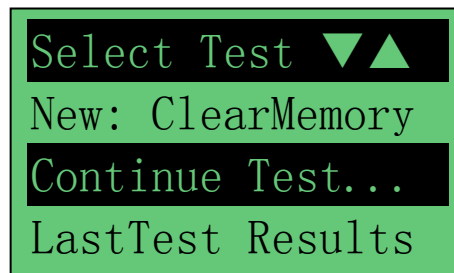

Figure 77
2. It will run through a self-test and when completed it displays the Main Menu as shown: (Fig. 77)